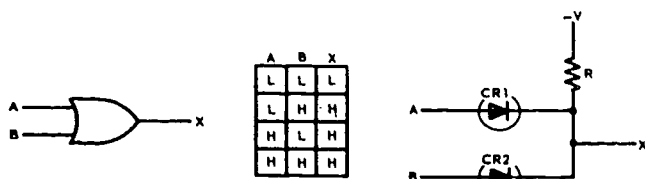

Figure 1-7. OR-gate and truth table.
Figure 1-7 is the truth table which relates all of the important features of the OR-gate. In this truth table,
The important feature to remember from figure 1-7 is that any, or all, high (H) inputs will produce a high (H) output.